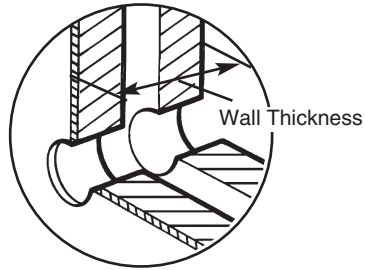

Fig. 61
3. Measure the wall thickness and from this dimension subtract 10mm (³/₈ in) (Fig. 61).